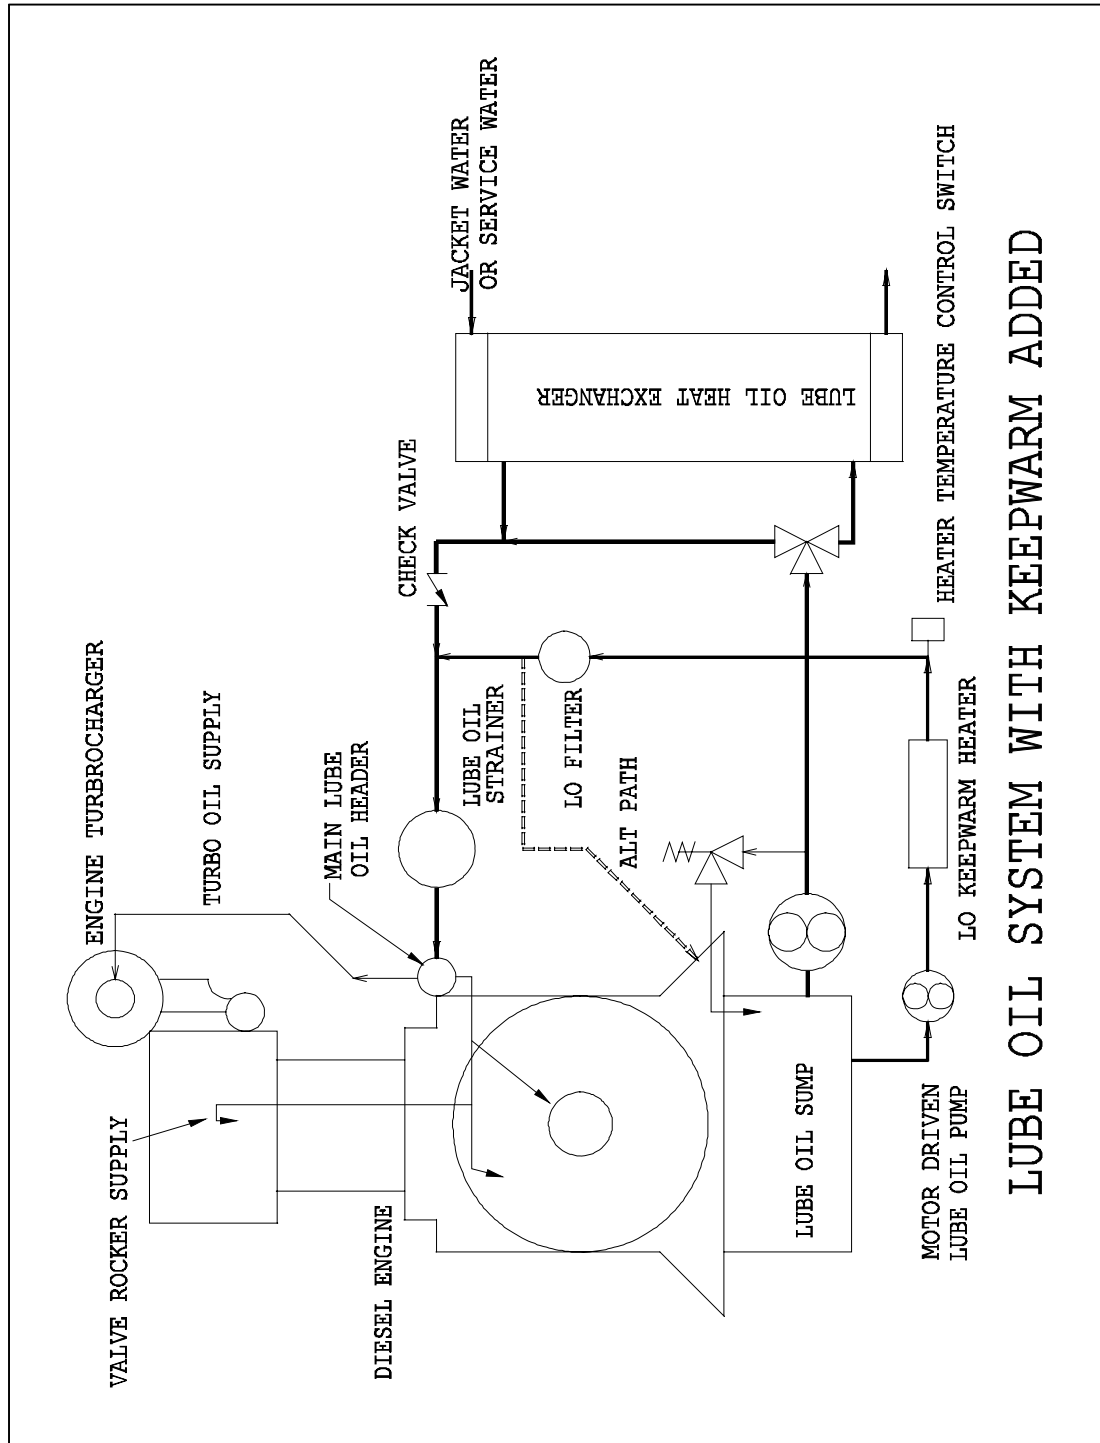

Figure 5-13 Lube Oil System with Keepwarm Added
5.2.9 Engine Pre-lube/Keep Warm-System (Figure 5-13)
Figure 5-13 shows a basic lube oil system that includes the prelube and keepwarm system components for a typical engine.